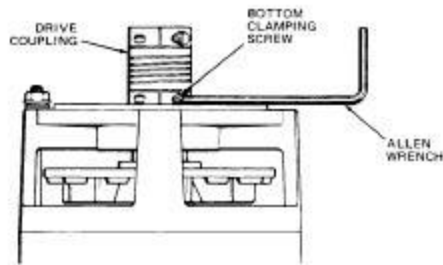

Figure 11-5. Drive Coupling Installation
- b. Seat the drive coupling on the motorshaft and tighten the bottom damping screw to 2.26 N'm (20 inch lbs.) torque. When the height of the coupling is properly adjusted, the Alien wrench lays flat across the top face of the motor housing. Figure 11-5.